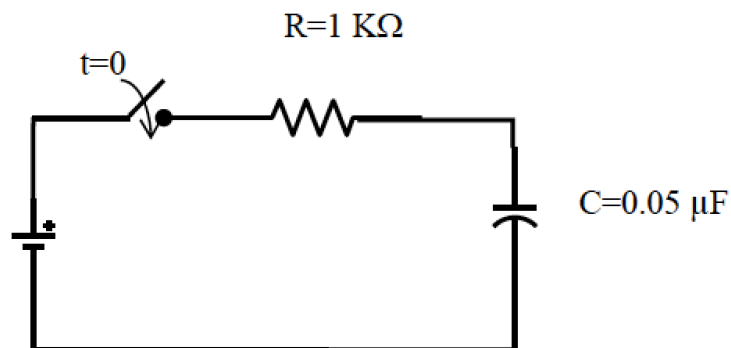

Fig. L2.2
- Find the voltage across the capacitor in Fig. L2.2 as a function of time if the capacitor was initially uncharged, and the switch was closed at time  $t=0$ .